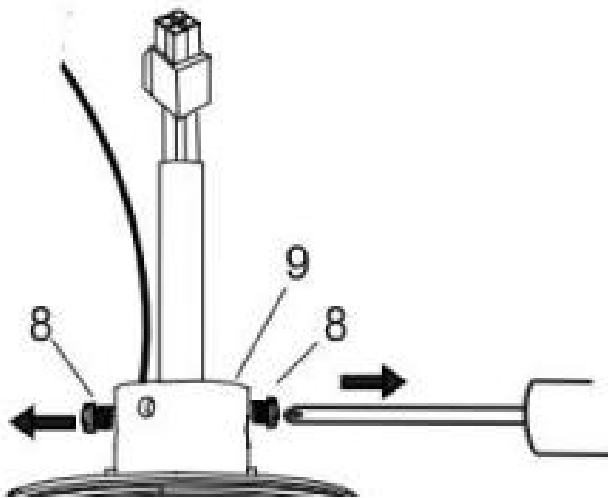

Fig. 4.2
2. Loosen the set screws (8) on the down rod coupling housing (9). (Fig. 4.2)